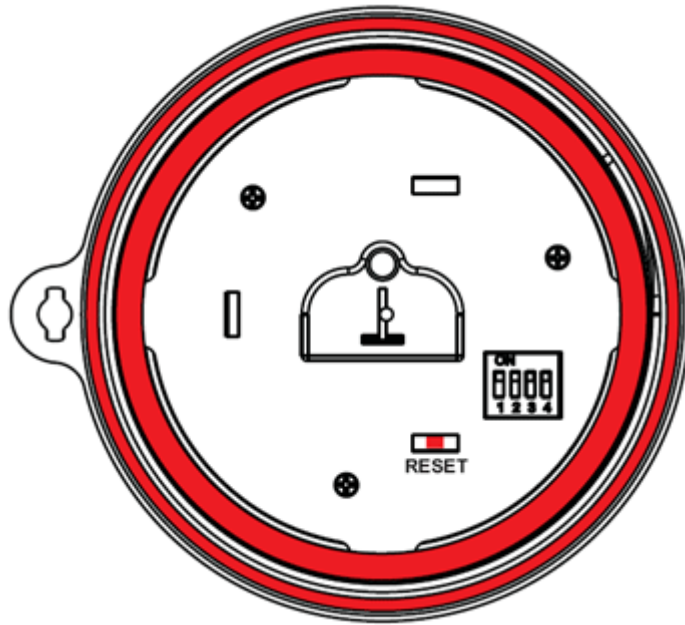

Figure 8
(1) temperature
- (2) temperature units (°F vs. °C)
- (3) channel number
6. Close the battery door. Make sure both red colored gaskets are properly seated in their traces prior to closing the battery door, as shown in Figure 8. Failure to properly seal the floating thermometer will result in water leakage and damage.